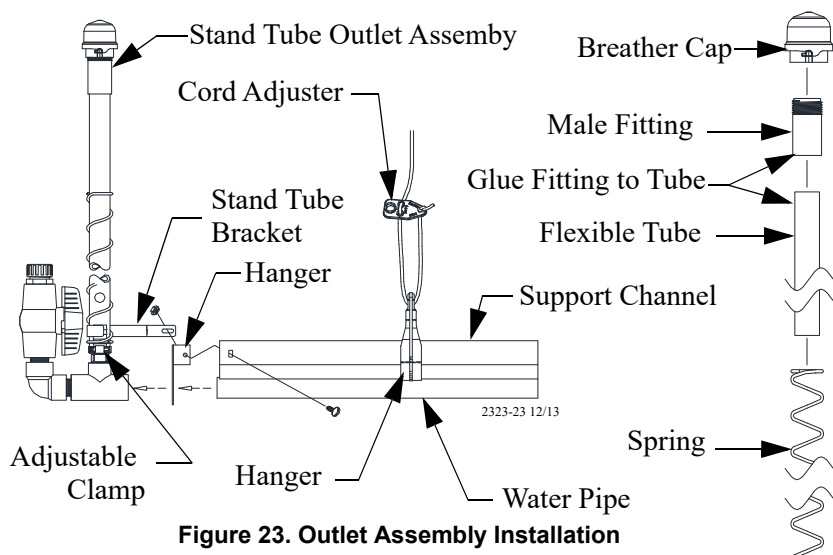

Figure 23. Outlet Assembly Installation
Install the outlet assembly, as shown in Figure 23.
3. Secure the hanger to the support channel, as shown in Figure 23. If the water line was shortened to terminate under a suspension drop line, it may be necessary to drill a hole in the support channel for the 10-24 stainless truss head screw and lock nut. The hanger may be used as a template to determine proper hole location.